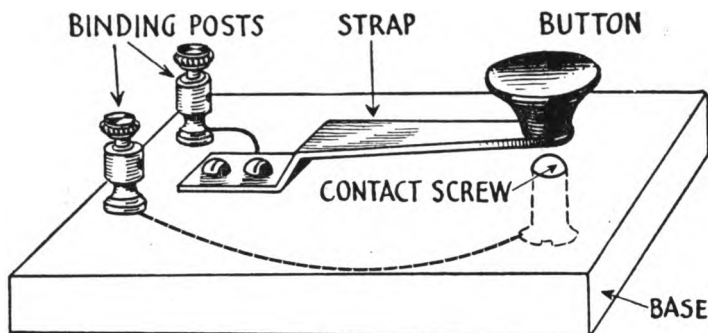
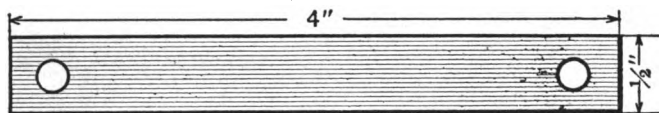

FIG. 4.—THE STRAP KEY COMPLETE.
FIG. 5.—BRASS STRAP FOR KEY.
**The Telegraph Key.**—This need not be a regular telegraph key, but instead it may be a simple *strap-key* as shown in Fig. 4. A strap-key can be easily made by cutting a piece of *spring sheet brass*, or even tin will do, 4 inches long and  $\frac{1}{2}$  inch wide, as shown in Fig. 5, and drilling a hole  $\frac{1}{8}$  inch in diameter through
Take some bell wire and connect the strap of the key, by bending one end of a wire around the screw, which holds it to the board, to one of the binding posts; then loop the end of another piece of wire over the screw and under the nut in front and connect with the other binding post. The dotted lines in Fig. 4 show how the key is connected up.